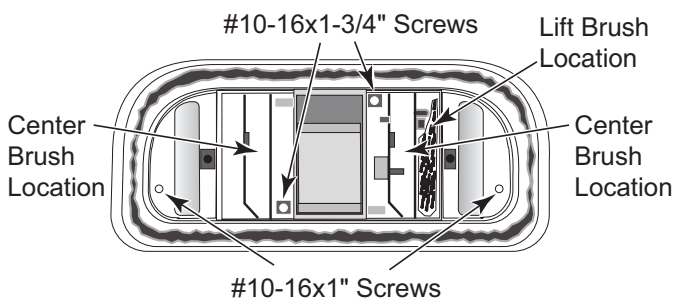

Figure 33 Bottom View of Cleaner
8. Install the lower body assembly in the shroud. Fasten the cleaning head in place with 6 screws (2 long, 2 short – **see Figure 33**).